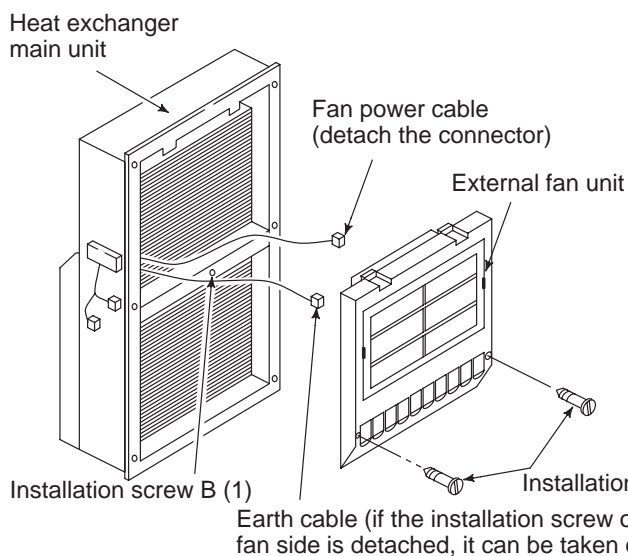

Fig. 1 Take out the external fan unit from the heat exchanger main unit
- (1) Take out the external fan unit from the heat exchanger main unit. (Fig. 1)